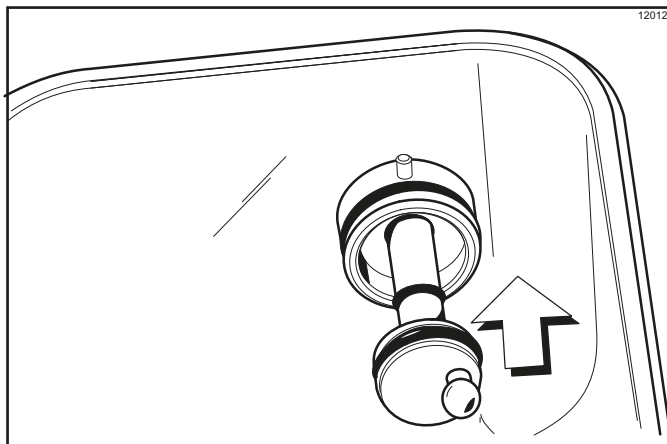

Figure 6-26
- Install the hex end of the drive shaft into the drive hub at the rear wall of the mix hopper. (See Figure 6-26.)